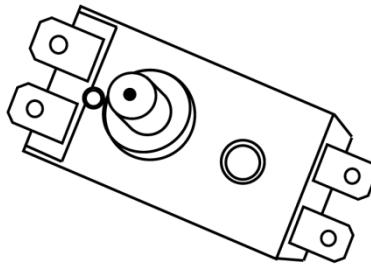

Fig. 7
- Press the button located in the center of the thermal switch (round shape, near the heating element) until you hear a click, see Fig. 7;